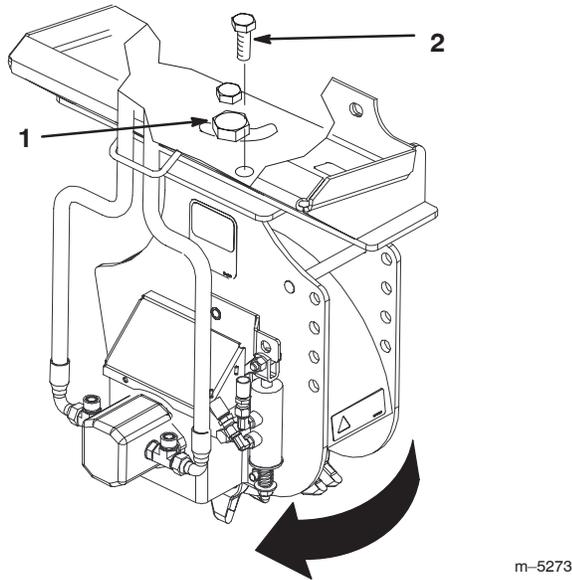

Figure 8
3. Loosen the large bolt on the top of the grinder (Fig. 8).
4. Remove the front bolt and nut securing the grinder (Fig. 8).
5. Swing the grinder 30 degrees clockwise (Fig. 8).
6. Torque the large bolt on top of the grinder to 300 ft.-lb. (406 N·m) (Fig. 8)
7. Install the bolt and nut in the front hole and torque them to 75 ft.-lb. (101 N·m) (Fig. 8).
12. Loosen the large bolt on the top of the grinder (Fig. 8).
13. Remove the front bolt and nut securing the grinder (Fig. 8).
14. Swing the grinder 30 degrees counter-clockwise (Fig. 8).
15. Torque the large bolt on top of the grinder to 300 ft.-lb. (406 N·m) (Fig. 8)
16. Install the bolt and nut in the front hole and torque them to 75 ft.-lb. (101 N·m) (Fig. 8).